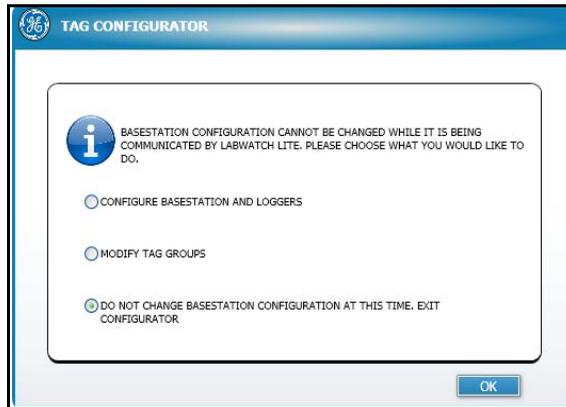

Figure 142: Tag Configurator Window
2. Click on the **Configurations** tab and then on the **Tag/Group Config** option. The Tag Configurator window (Figure 142 below) opens.